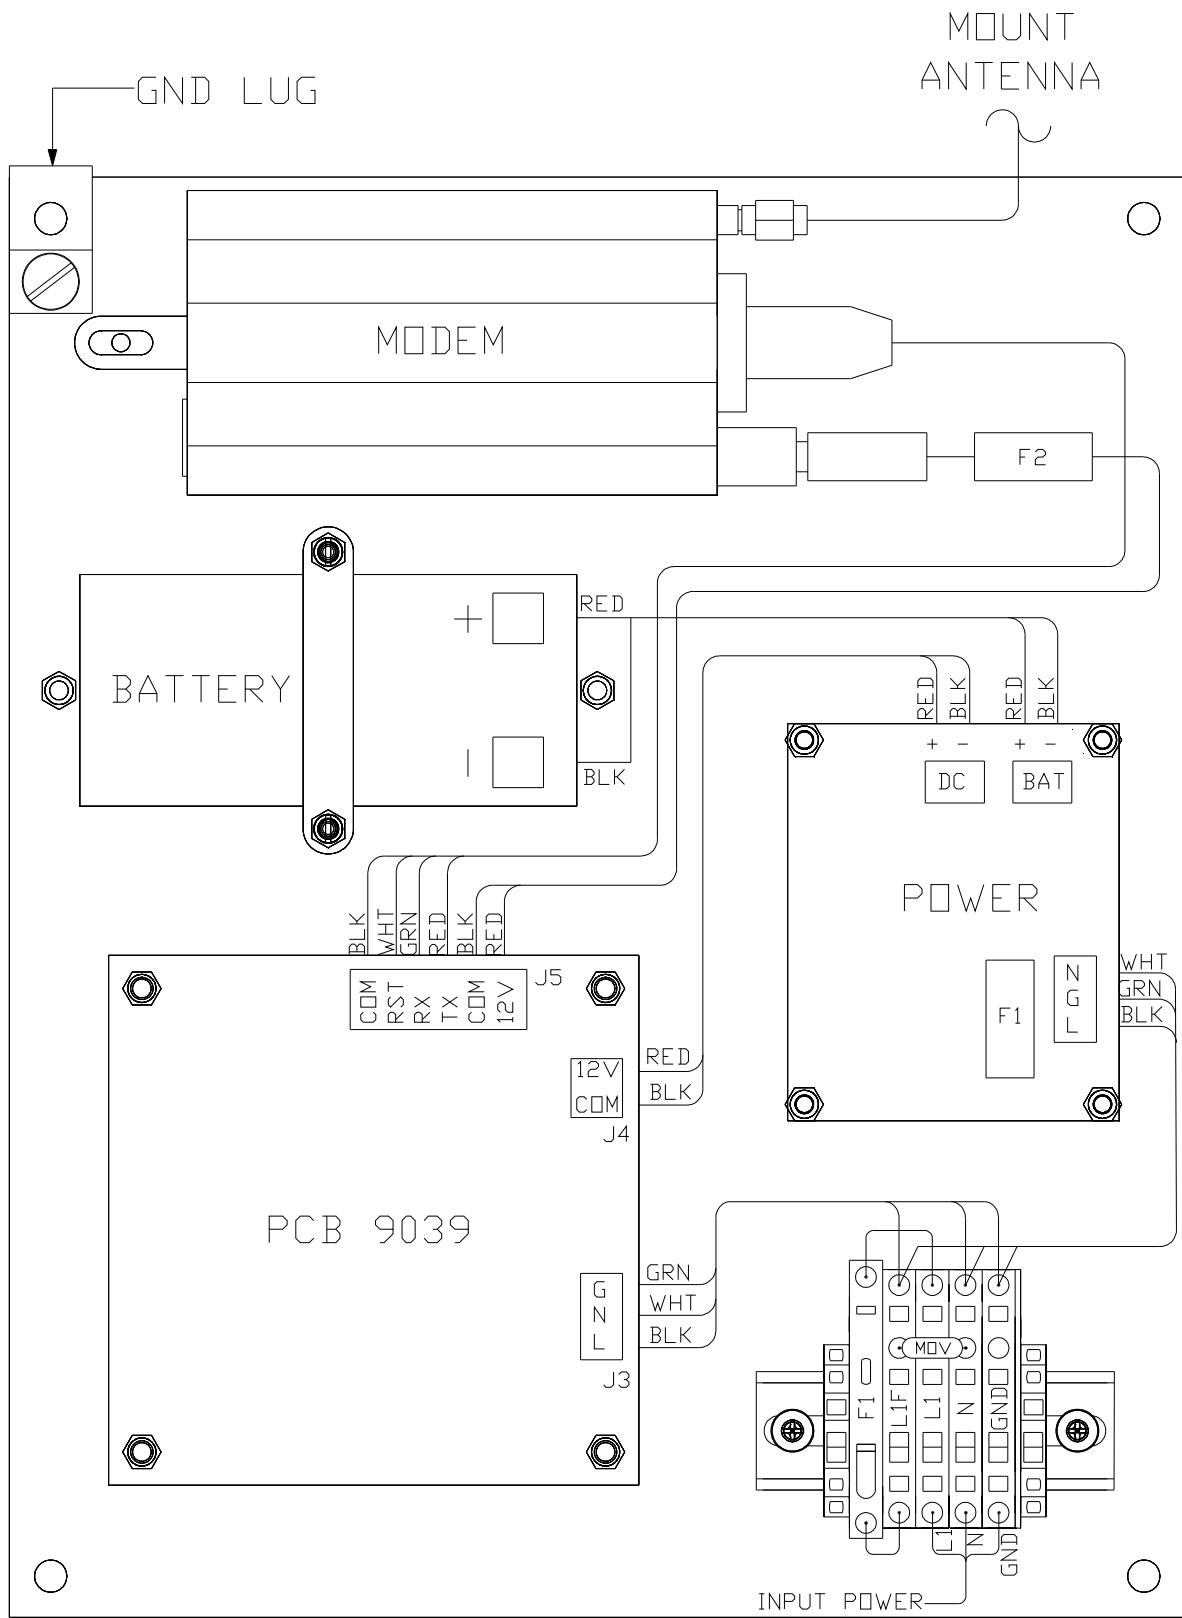
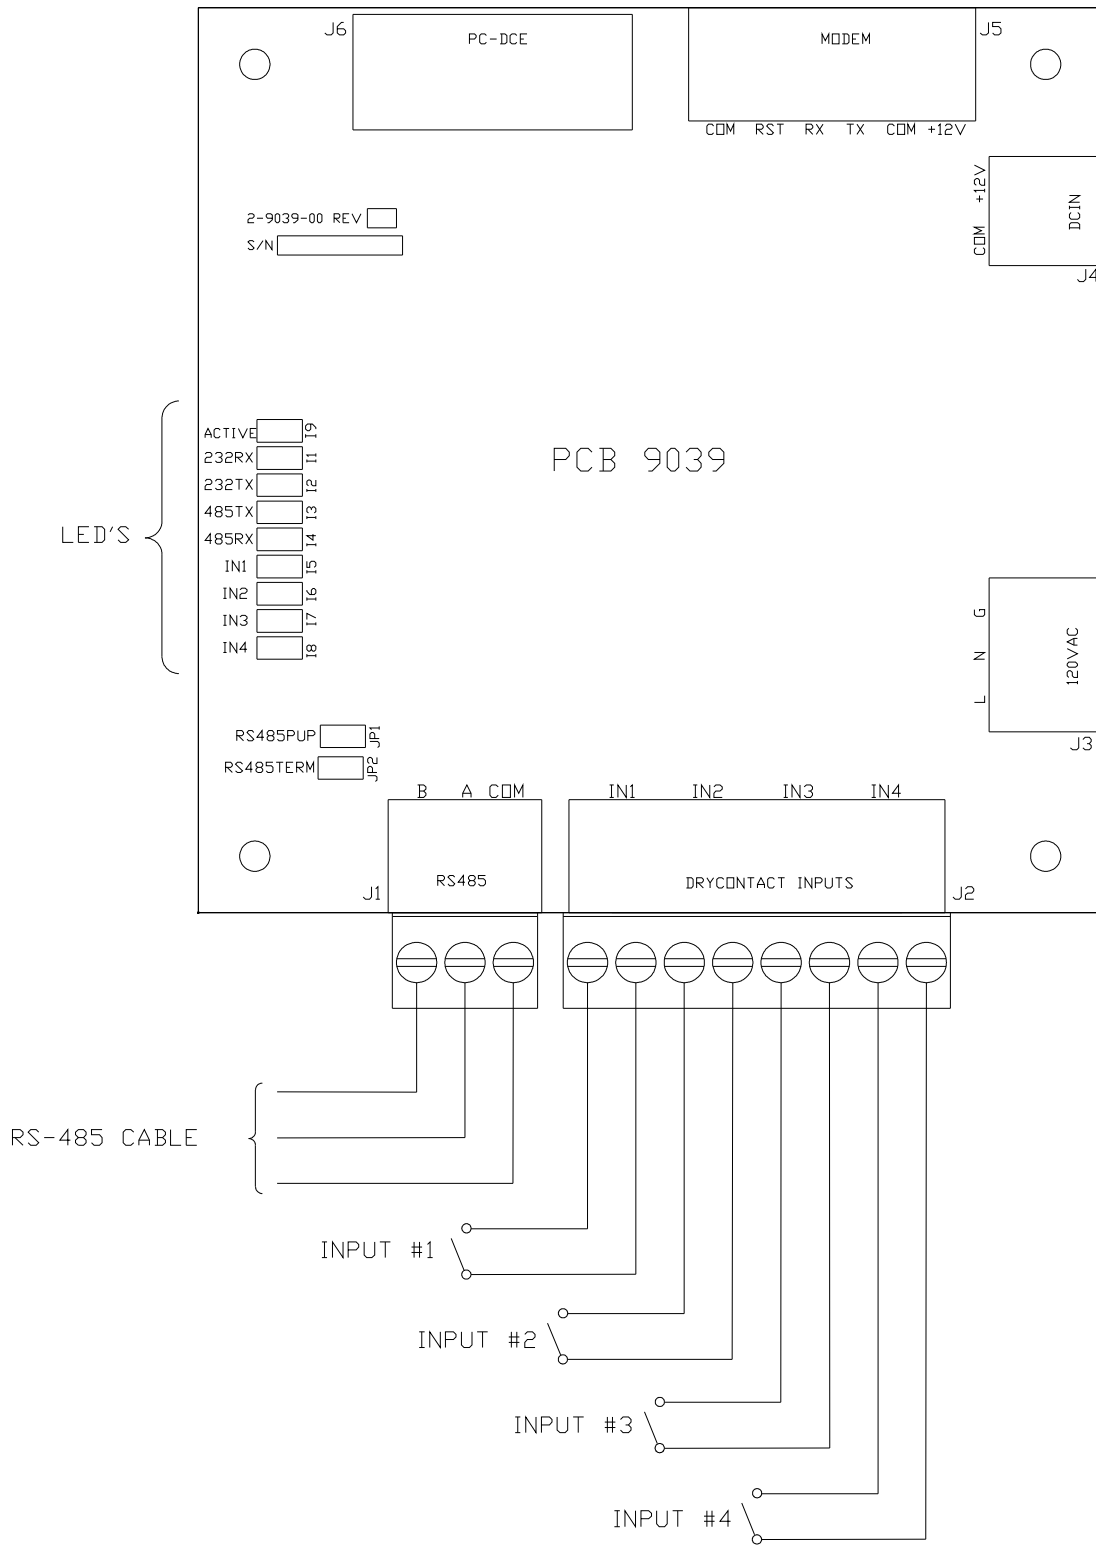
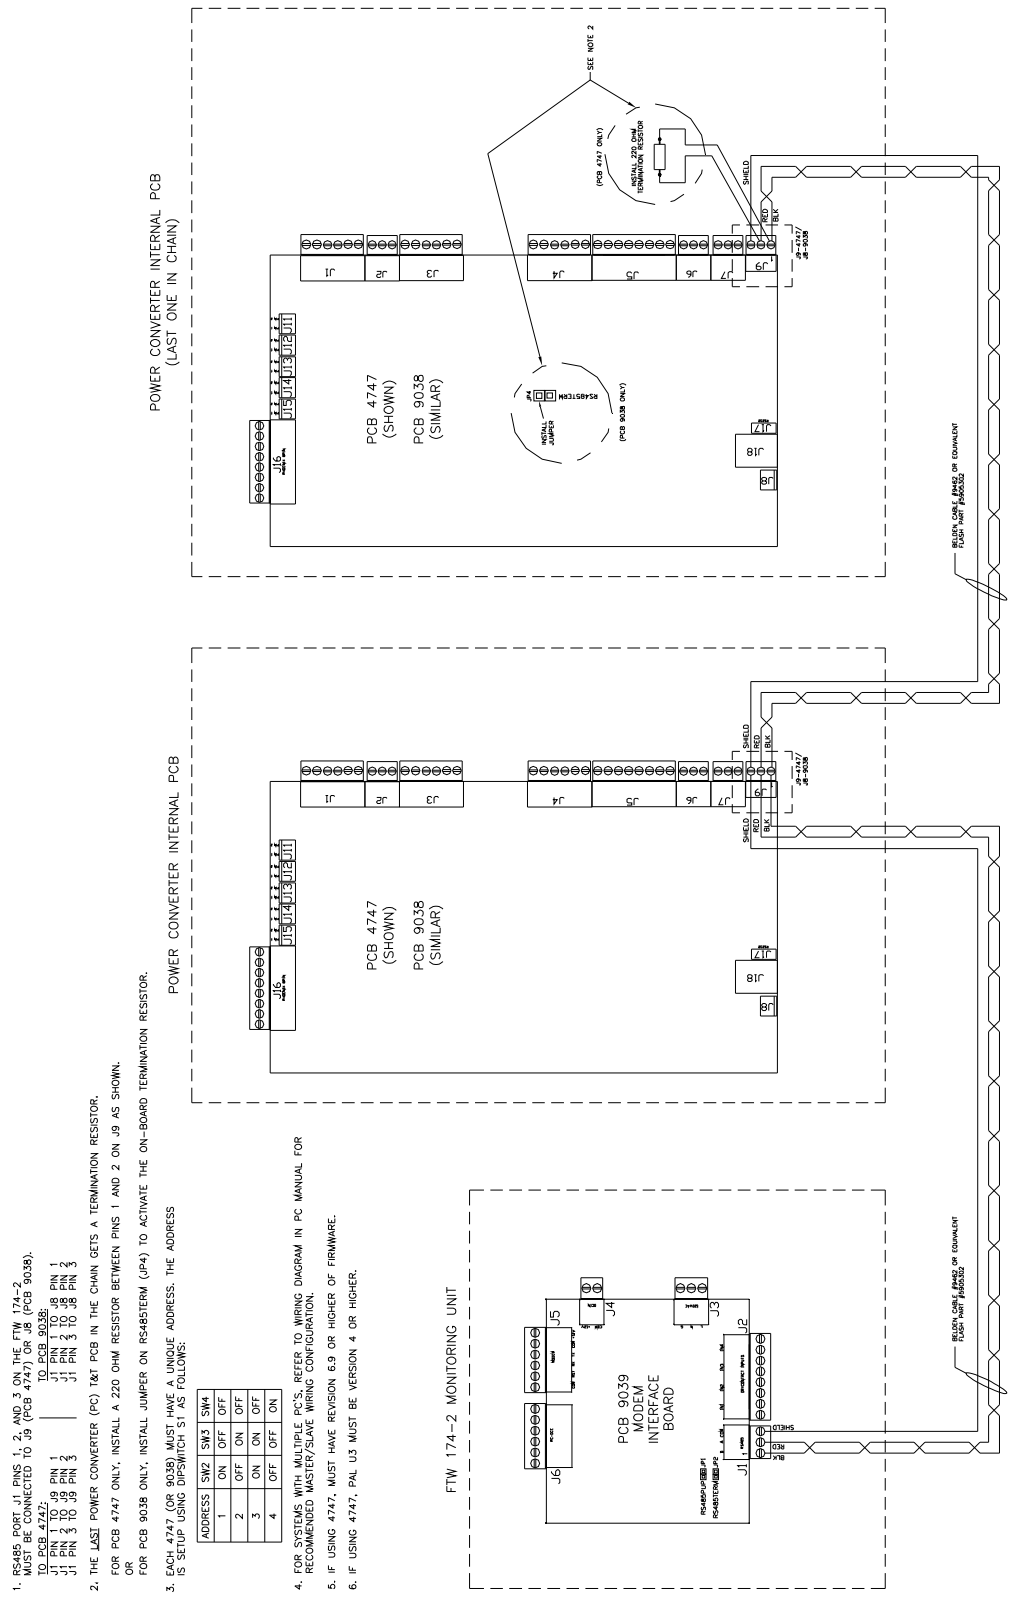

Figure 1-1 – FTW 174-2 Internal Wiring & Component Layout
Figure 3-3 – PCB 9039 Layout and External Wiring
Figure 3-5 – RS-485 Installation with FTB Strobe System
The component layout and internal wiring of the unit is shown in Figure 1-1. The dry contact inputs are located on J2 of PCB 9039 as shown in Figure 3-3.
The following steps will verify wireless service in your area and must be performed at the location where the unit is to be installed. A label located on the inside front cover of the monitoring unit is provided to call attention to this process. Figure 2-1 depicts the label noted above. Prior to installation, the on-site technician should apply 120 VAC to the unit and then monitor the green LED indicator labeled “ACTIVE” on PCB 9039 for status. See Figure 3-3 for location of the LED. If wireless service is available, the LED will
Connect the equipment to be monitored via dry contact inputs as shown in Figure 3-3. A label has been provided on the inside cover of the unit to record each input, up to four (4), that is connected. Figure 3-2 depicts the dry contact input label.
Connect the equipment to be monitored via RS-485 as shown in Figures 3-5 or 3-6. Figure 3-3 shows the layout of the PCB 9039 board.
To provide increased immunity from lightning damage to the FTW 174-2, it is essential that the Ground Lug located in the upper left corner of the FTW baseplate (Figure 1-1) be properly connected by a No. 2 AWG conductor to the site Grounding System. Observe proper Grounding Procedures.
Table 3-1 describes the LED's that are present on the PCB 9039. The location of each LED is shown in Figure 3-3.
2. Re-apply power to the equipment and observe the “Active” LED shown in Figure 3-3. Once the LED is “On with short BLINKS”, communication with the NOC has been established. This process may take several minutes. Refer to Figure 2-1 and Table 3-2 for complete details of the “Active” LED.
4. Connect the red wire to + (Positive) and the black wire to – (Negative) on the battery as shown in Figure 1-1.